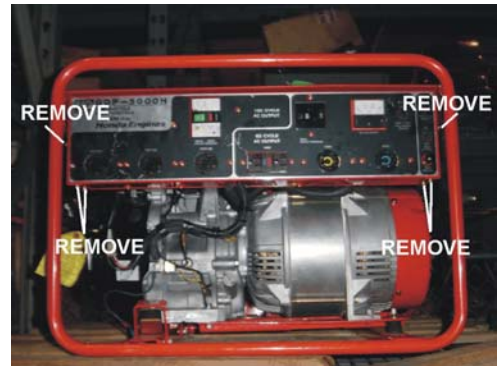

Figure 7. GDP-5000H Control Panel Removal
2. Using an 8 mm wrench or socket, remove the hex head bolts (6) that secure the control panel to the generator frame. See Figure 7.